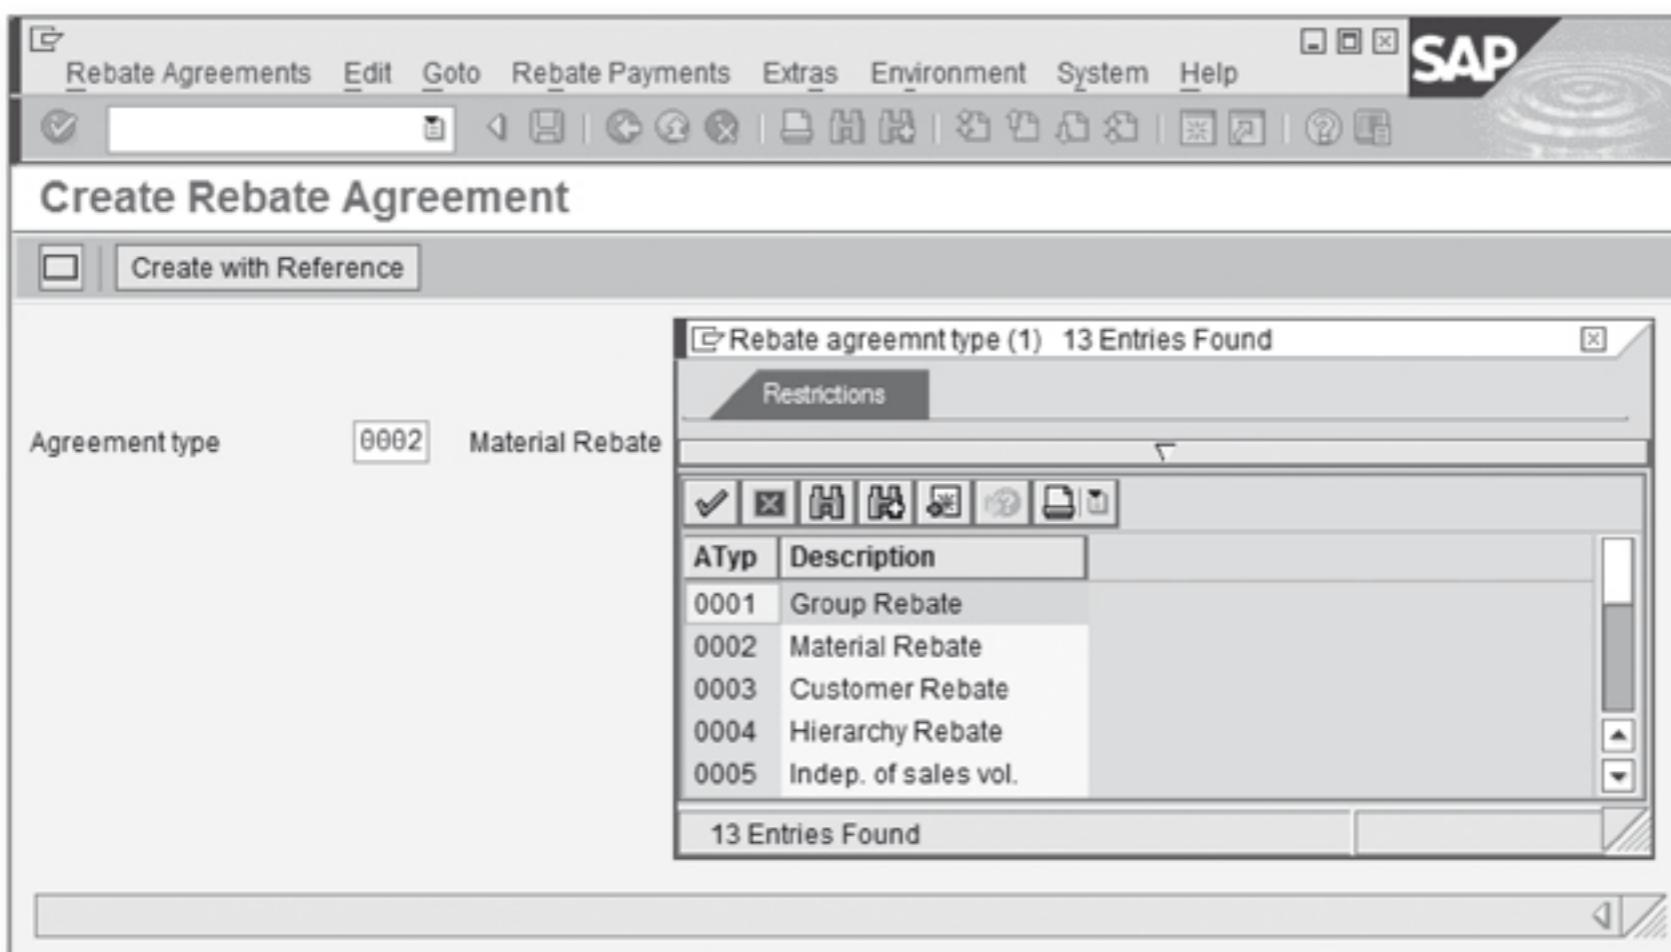

Figure 2.25 Rebate Agreements Types
- ▶ Rebate Criteria by selecting rebate agreement type. See Figure 2.25 for a list of standard agreement types.